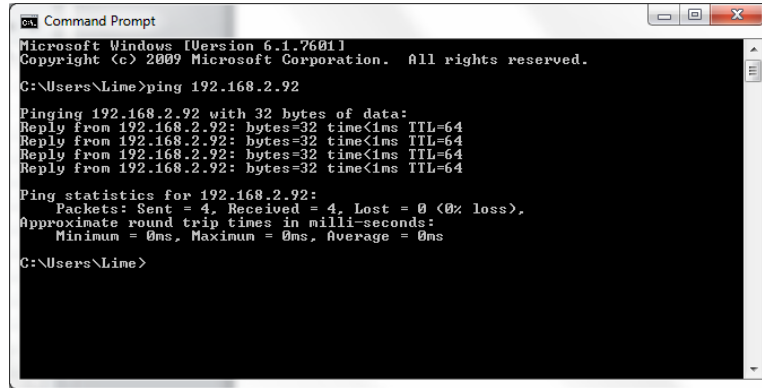

Figure 49 CMD window showing successful ping
- A successful ping result should be returned as shown in *Figure 49*